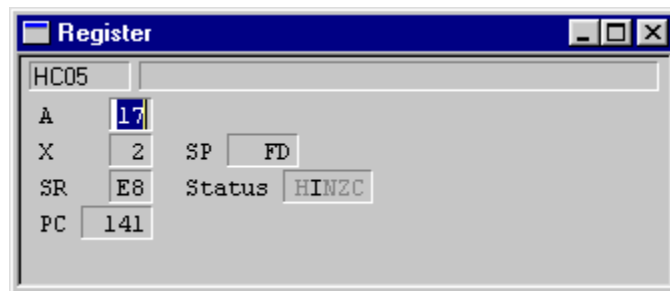

Figure 4-8. Modifying the Content of an Index or Accumulator Register
1. Double click on a register. The current register content is highlighted (Figure 4-8) and can be edited.